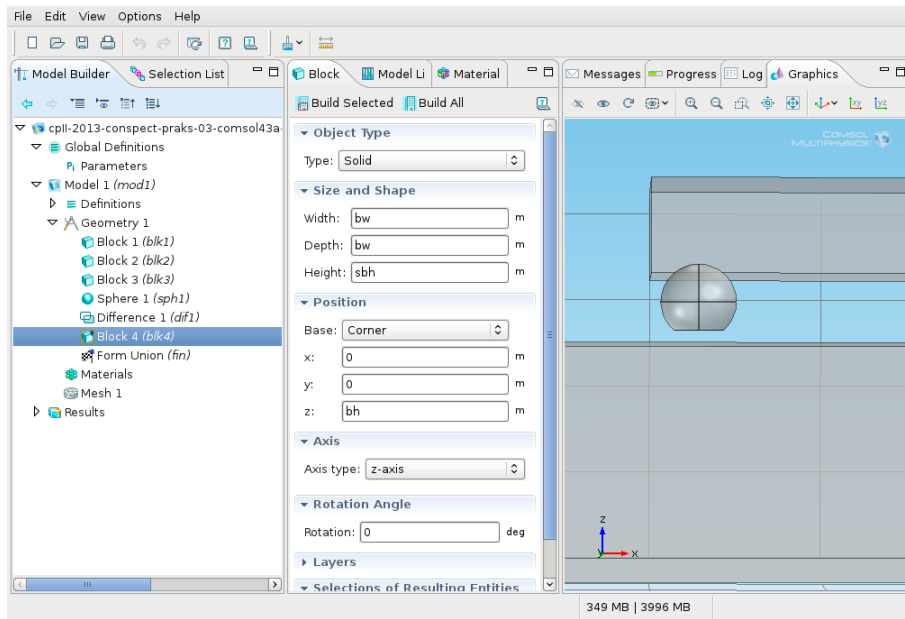

Figure 10: Restoring the narrow block.
- Removing the segment removes the narrow block also. To restore it (Fig. 10): **Model Builder** → **Geometry 1** → **Block 2: right button** → **Duplicate** → **Build Selected.**